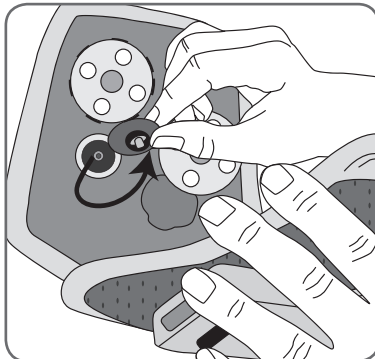

Figure 60: Disconnecting the electrode base snaps.
3. Disconnect the electrode base snaps from the plug holes. See Figure 60.